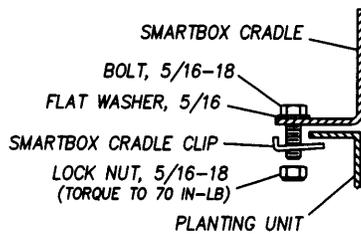

Figure 5a
6. If cotter pins do not hold cradle securely in place, use SmartBox® cradle clips as a spacer between the frame and pins; or secure the cradle to the frame using the SmartBox® cradle clips and fasteners as shown in Figure 5a.